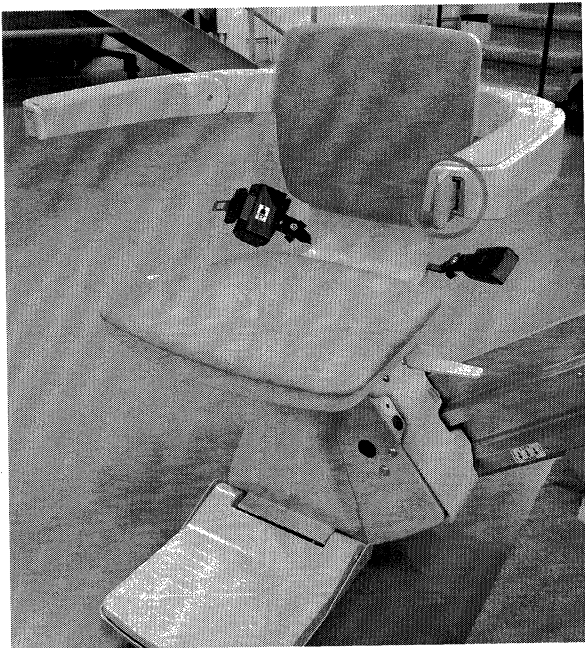

Fig. 17
17. Place seat back on carriage, reinstalling the Seat Swivel Pin, reconnecting 8-pin Carriage Harness, and reinstalling Footrest Cover. Turn on Carriage Circuit Breaker and test that the Up/Down Paddle Control operates correctly [Fig. 17].